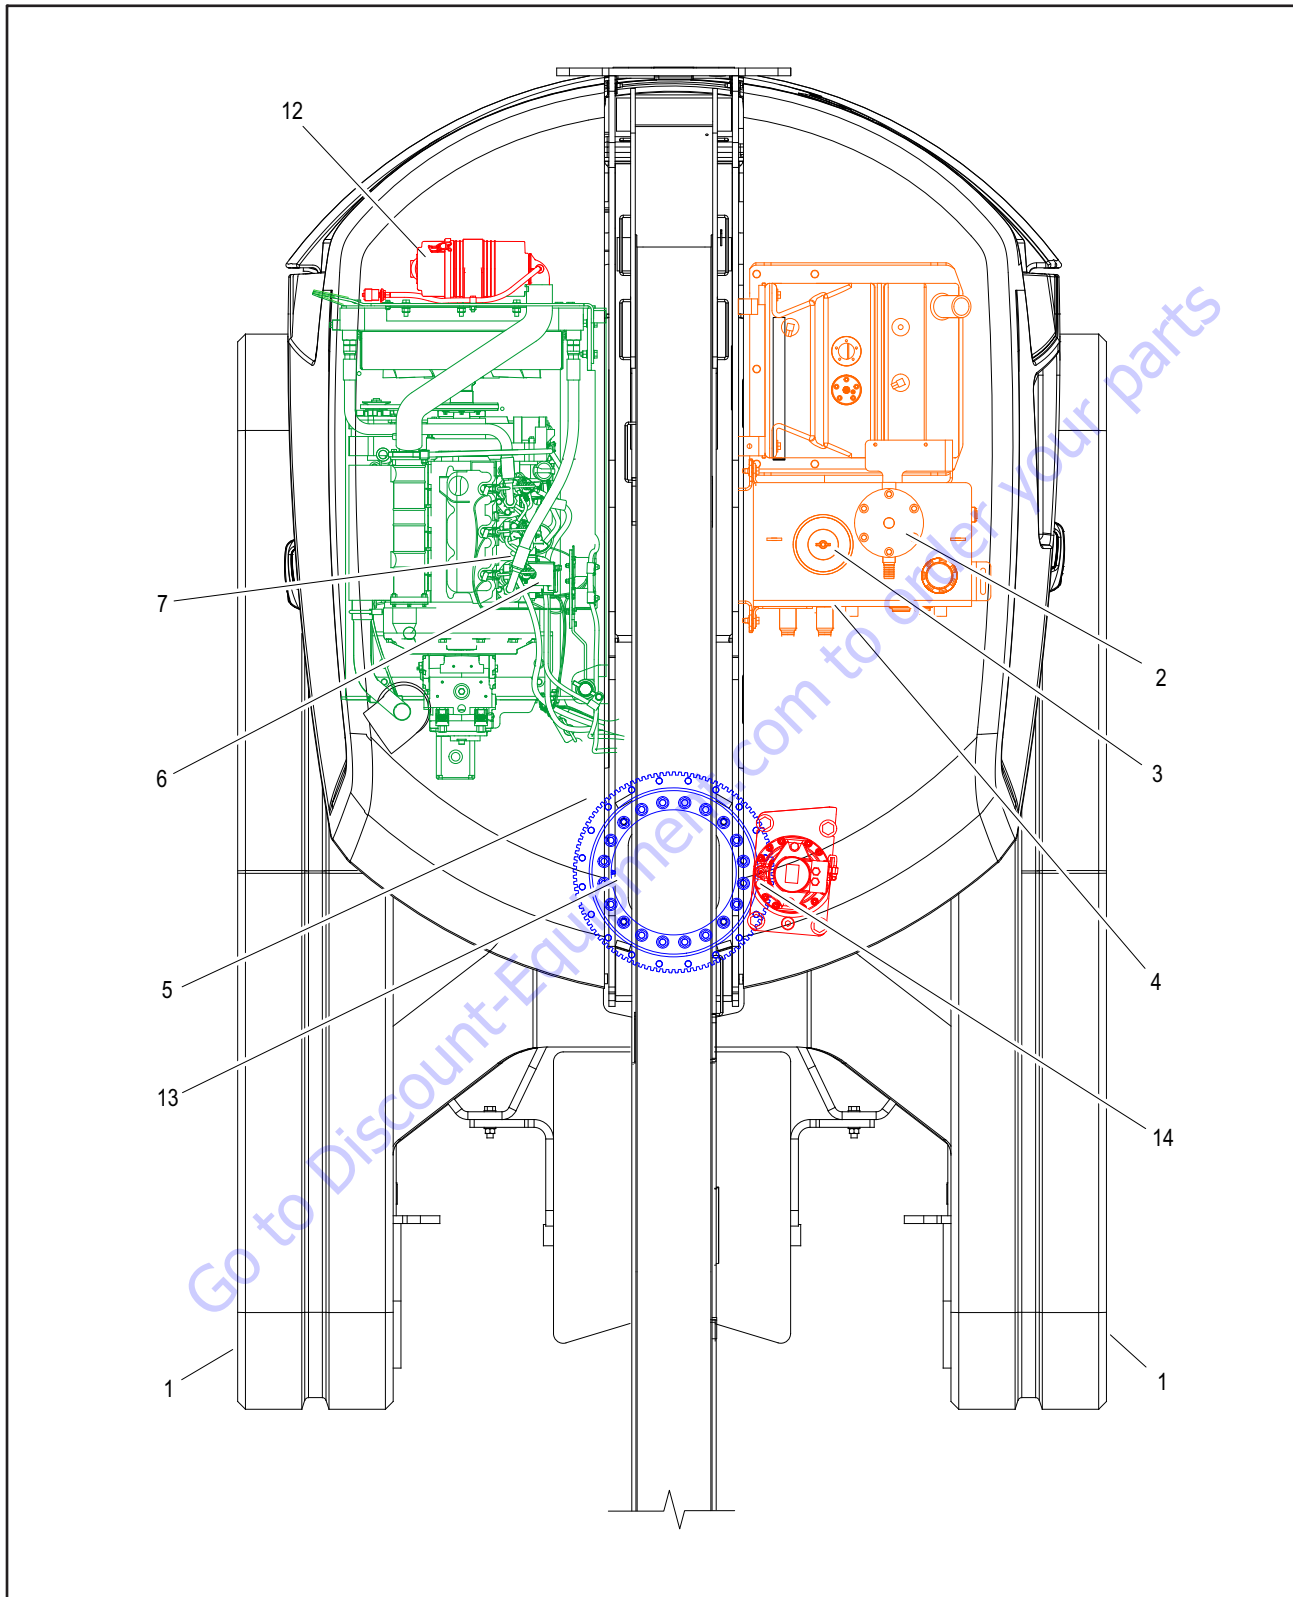
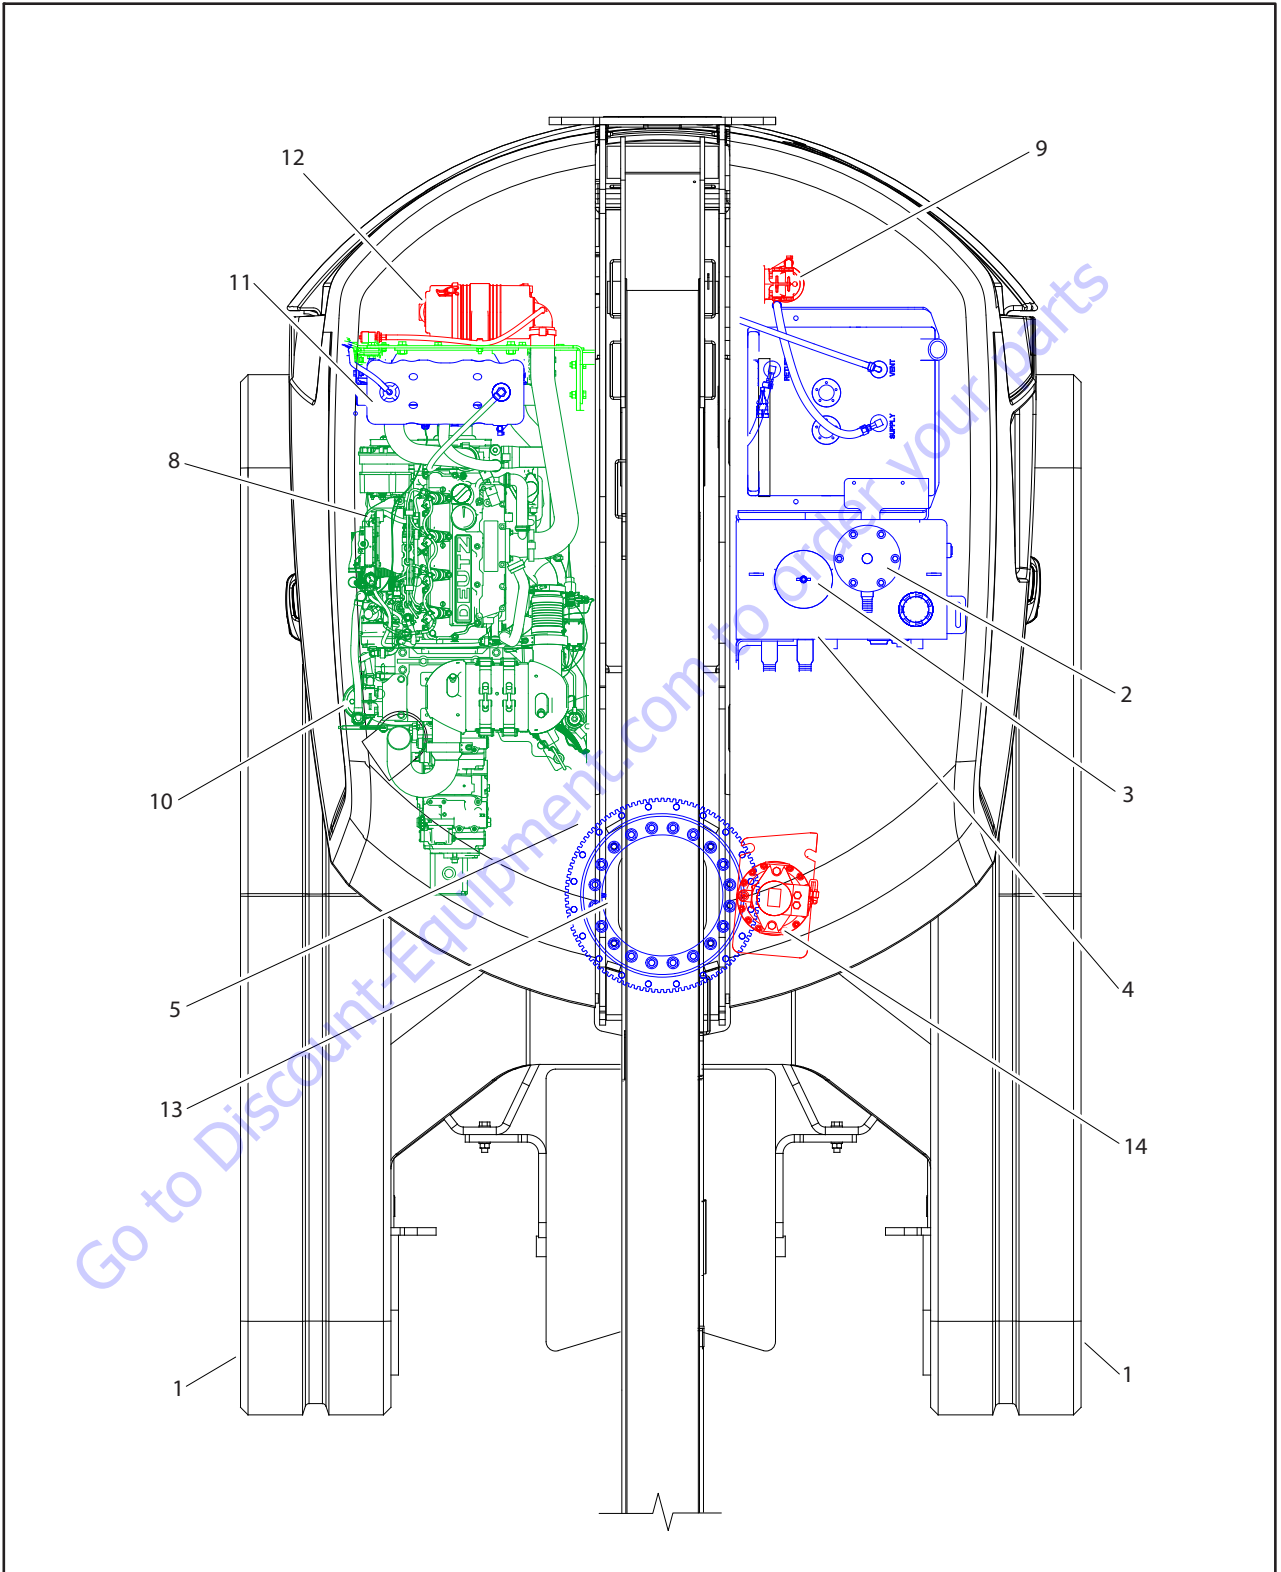

Figure 1-1. Maintenance and Lubrication Diagram - Deutz D2011L03
Figure 1-2. Maintenance and Lubrication Diagram - Deutz 2.9L4
**NOTE:** The following numbers correspond to those in Figure 1-1. and Figure 1-2.